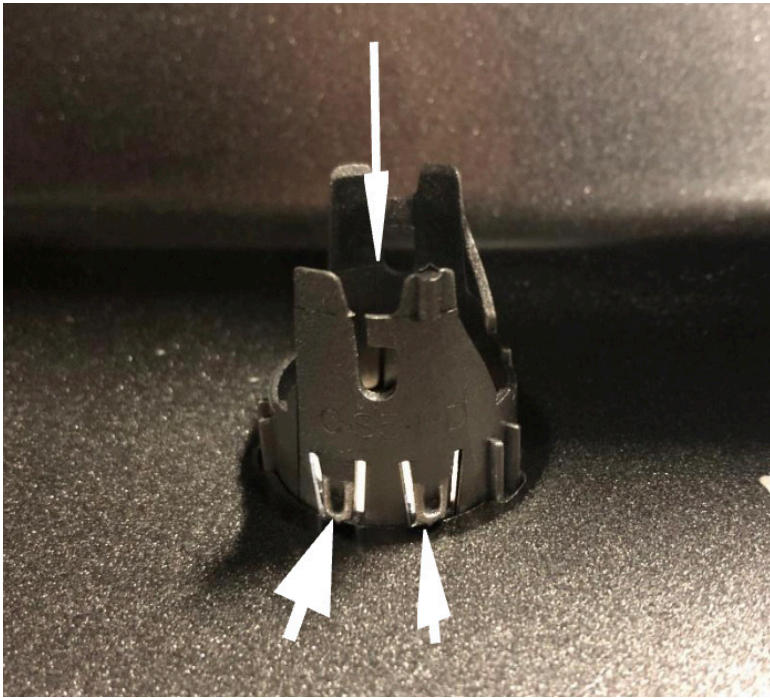

Figure 21
19. Remove the sensor housings from the bumper by pressing the retainer clips in on the sides and pushing the housing out. (Figure 21)